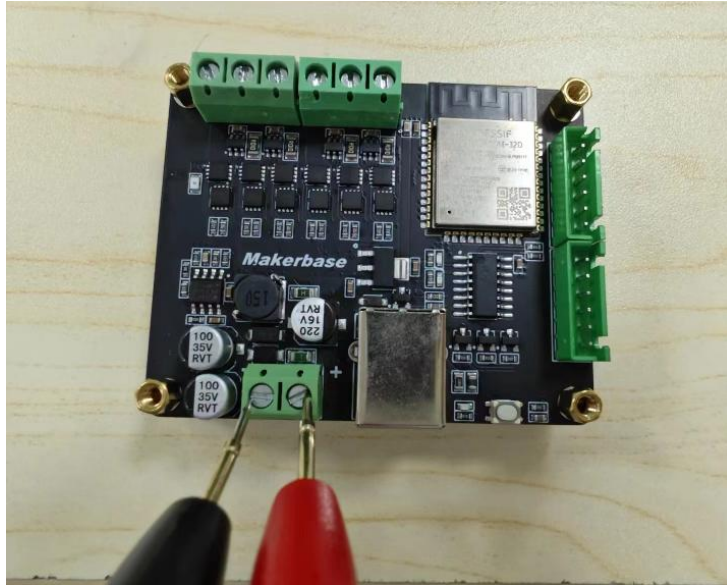

Figure 1 Test whether Vin is short-circuited
1. Use a multimeter to check whether there is a short circuit between the positive and negative terminals of VIN on the driver board, as shown in Figure 1